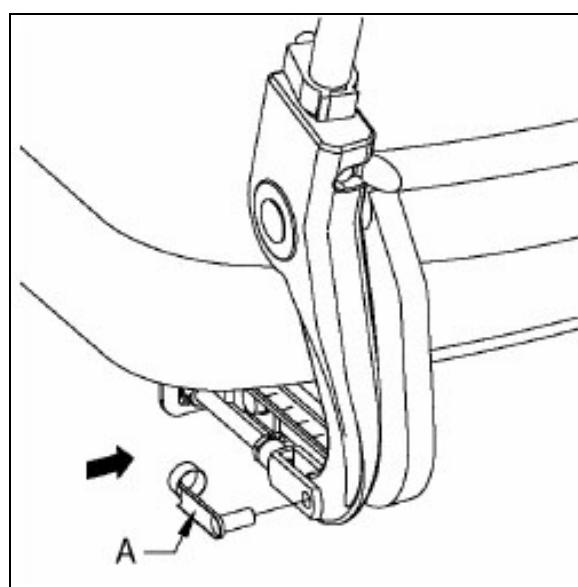

Figure 3.15
1. Flip the lock clip (A in fig. 3.15) off the adjusting bar.